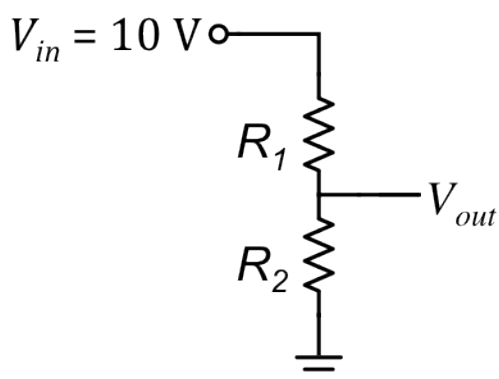

Figure 2 - Voltage divider circuit.
In this portion of the lab, you will construct the circuit shown in Figure 2 using a solderless breadboard. You will then measure V_{out} as a function of the resistance R_2 . Copy the circuit diagram and table into your lab notebook.
1. Sketch the circuit shown in Figure 2 in your lab notebook.
6. Insert this resistor into breadboard as R_2 to form the circuit shown in Figure 2. Use the breadboard's built-in power supply to provide $V_{in} = 10\text{ V}$ to the circuit. Make sure the other end of the circuit is properly connected to ground.